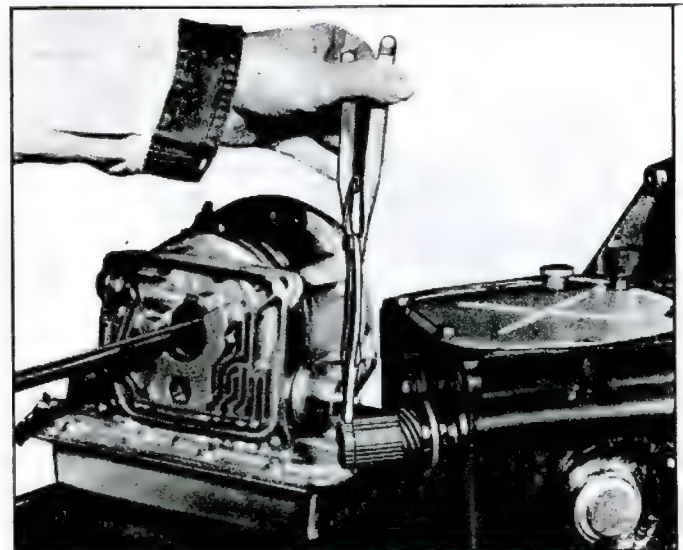

Fig. 10—Installing Rear Selective Spacer
- Install spacers selected on governor gear (fig. 10), then check that proper total thickness has been installed by again measuring with J-8364 as described in Step d. If shim stack is correct, indicator reading will now be between .025"—.045"; otherwise add or remove spacers until reading is within this range.